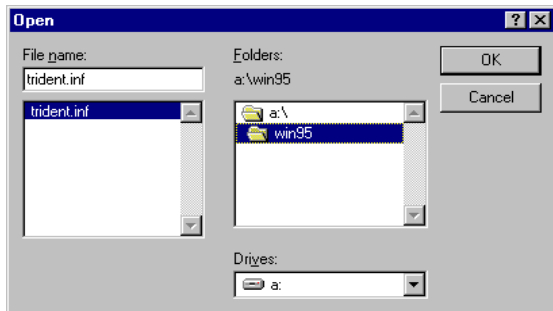

Figure 3-5.
6. After the Have Disk” button is selected, an Install From Disk” window will appear. SELECT the Browse” button to browse the directory X:\WIN95” of your diskette drive (or DISC from CD ROM) where X: stands for the drive letter of your diskette drive in your system (refer to Figure 3-5).